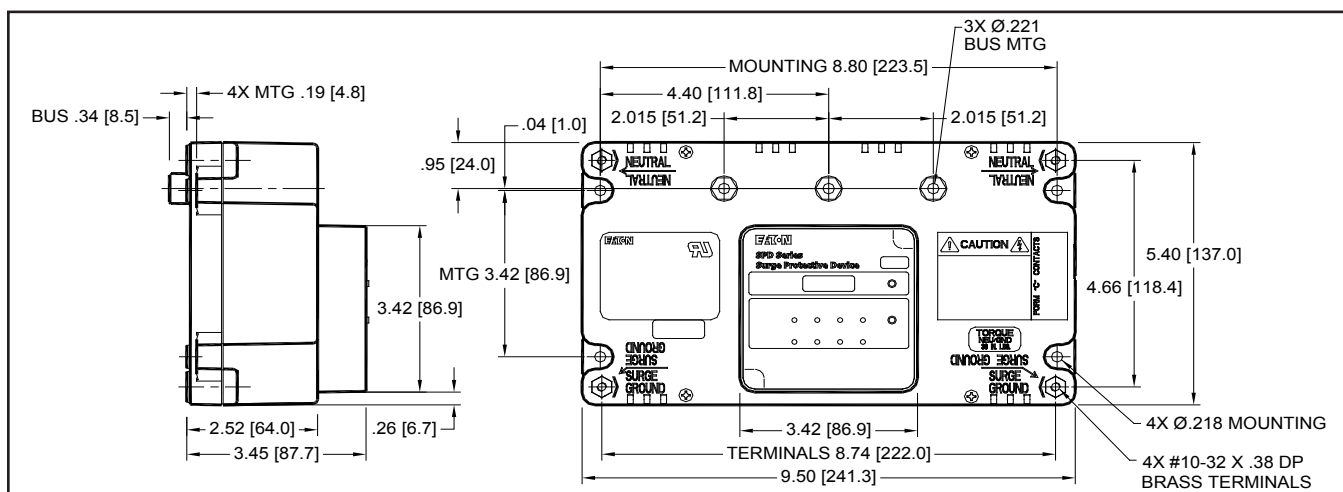
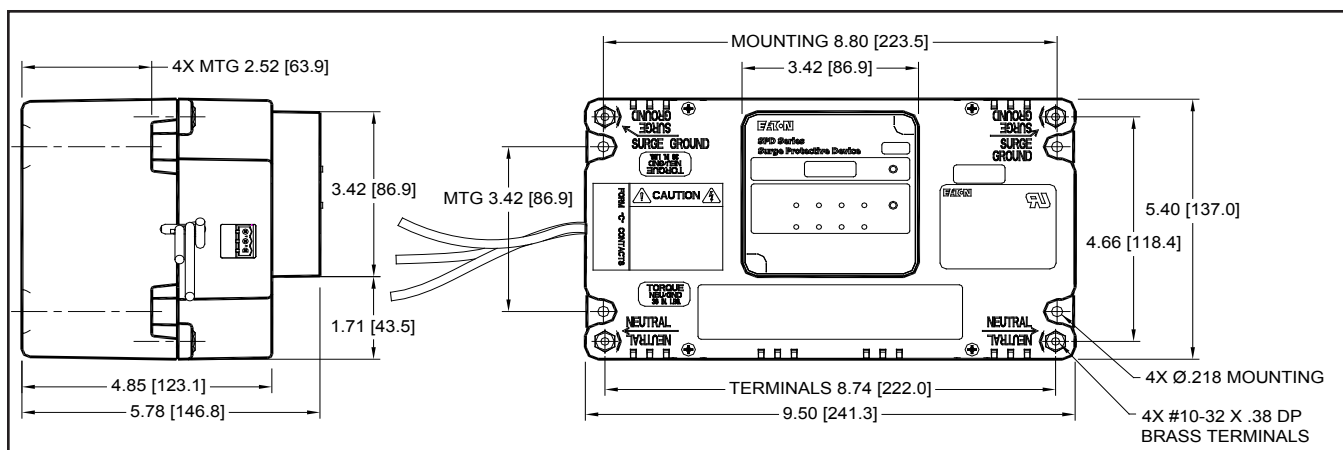

Figure 4. Dimensions for 50-200kA Units
Figure 5. Dimensions for 250-400kA Units
4. Mount the SPD to the support brackets (customer supplied) using #10 fasteners and tighten to 4.1 Nm (36 in-lbs). See Figures 4 and 5 for mounting details.
- Mount the SPD to the support brackets (customer supplied) using #10 x 2-3/4" fasteners and tighten to 4.1 Nm (36 in-lbs). For 50-200kA models, see Figure 4 for mounting dimensions. For 250-400kA models, see Figure 5 for mounting dimensions. **Note:** Mount the SPD as close as possible to the circuit breaker.
- 1. Ensure that the dead-front or door has the appropriate cut-out to accommodate the SPD Display. See Figure 4 or Figure 5.
- 1. Ensure that the MCC bucket door has the appropriate cut-out to accommodate the SPD Display. See Figure 4 or Figure 5.